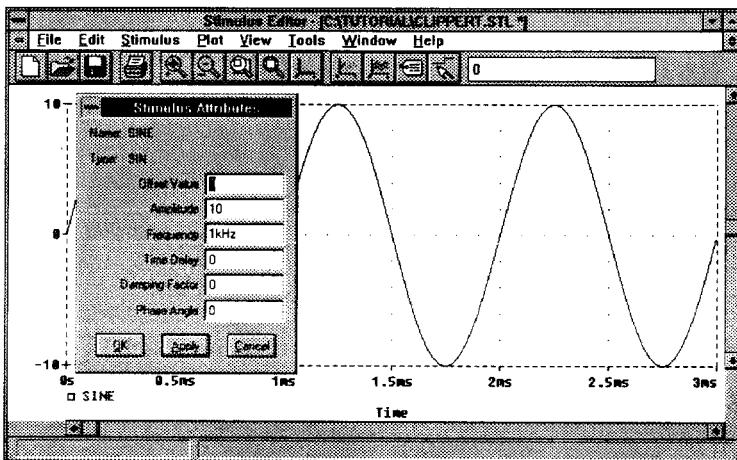

Figure 2-12 Stimulus Editor Window
- 14 Click on Apply to view the waveform. The Stimulus Editor window should look like Figure 2-12.